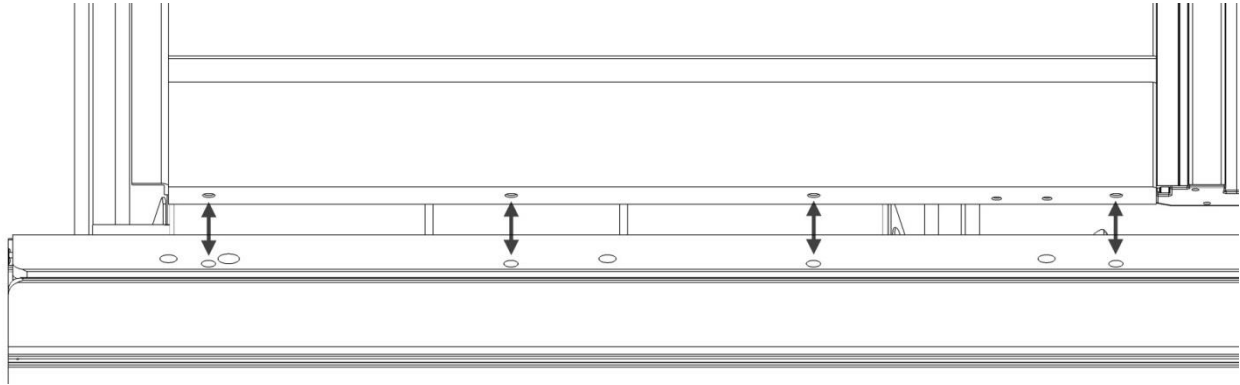
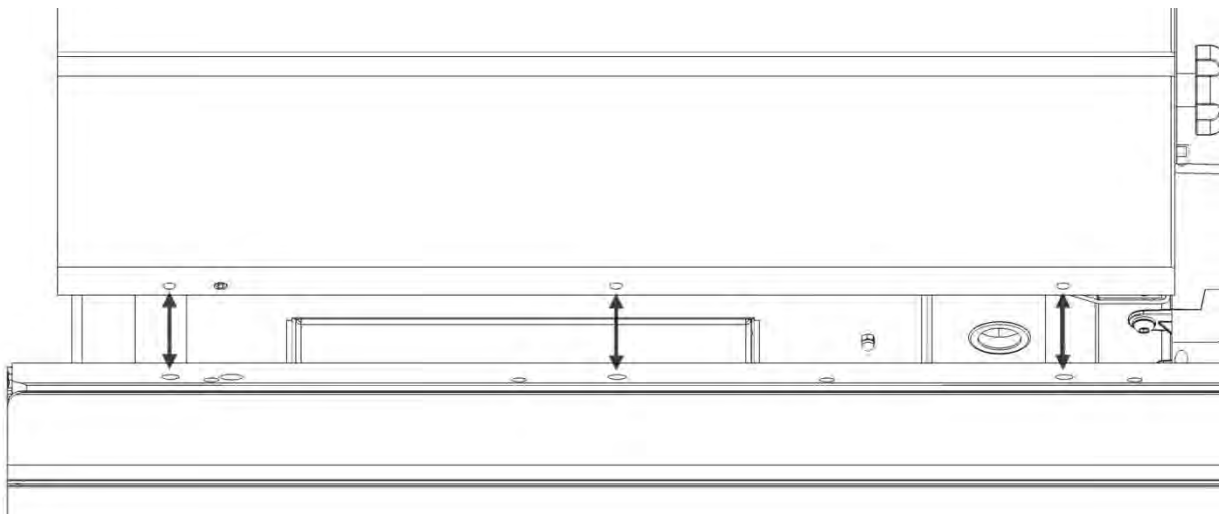

Fig. 6
Fig. 7
5. Visually align the mounting holes in the side of the sliding table assembly with the holes in the side of the saw table and then mark the set of holes to be used. See **Fig. 6** for PCS and CNS saws, or **Fig. 7** for ICS saws.